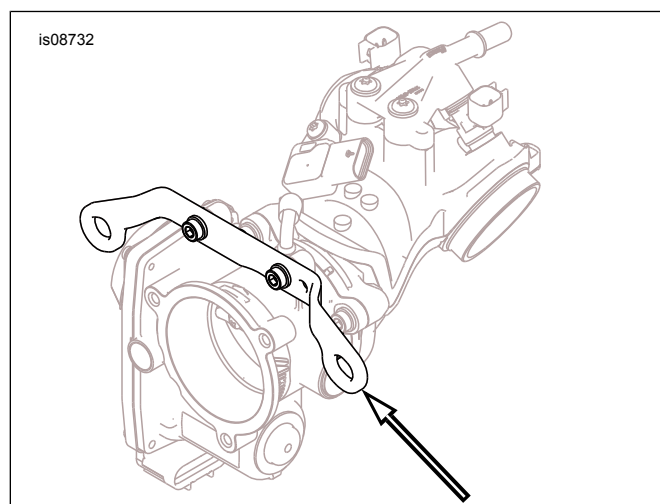

Figure 2. Remove Induction Module Support Bracket
1. Remove Original Equipment (OE) air cleaner. See service manual.
2. See Figure 2. Remove and discard induction module support bracket.